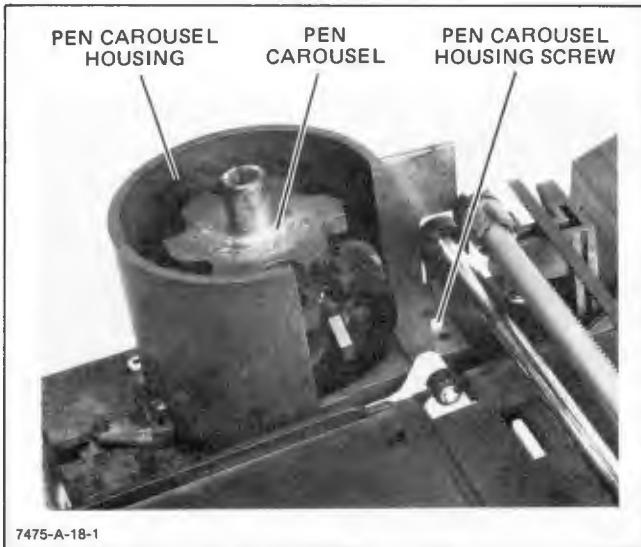

Figure 8-16. Pen Carousel Housing
- g. Remove the screw that secures the pen carousel housing to the base chassis assembly. See Figure 8-16.